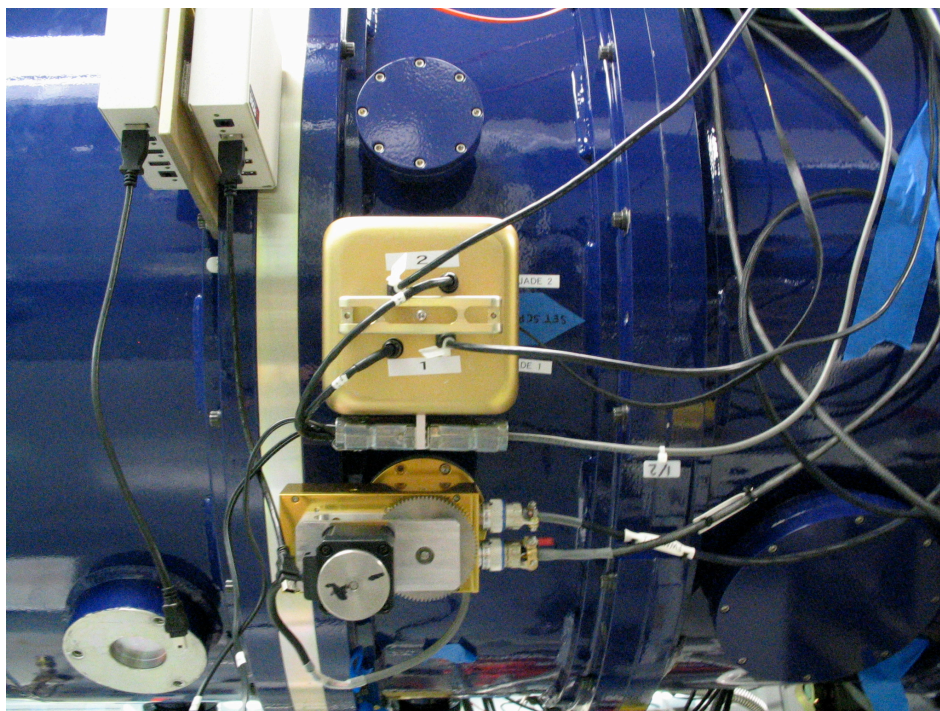
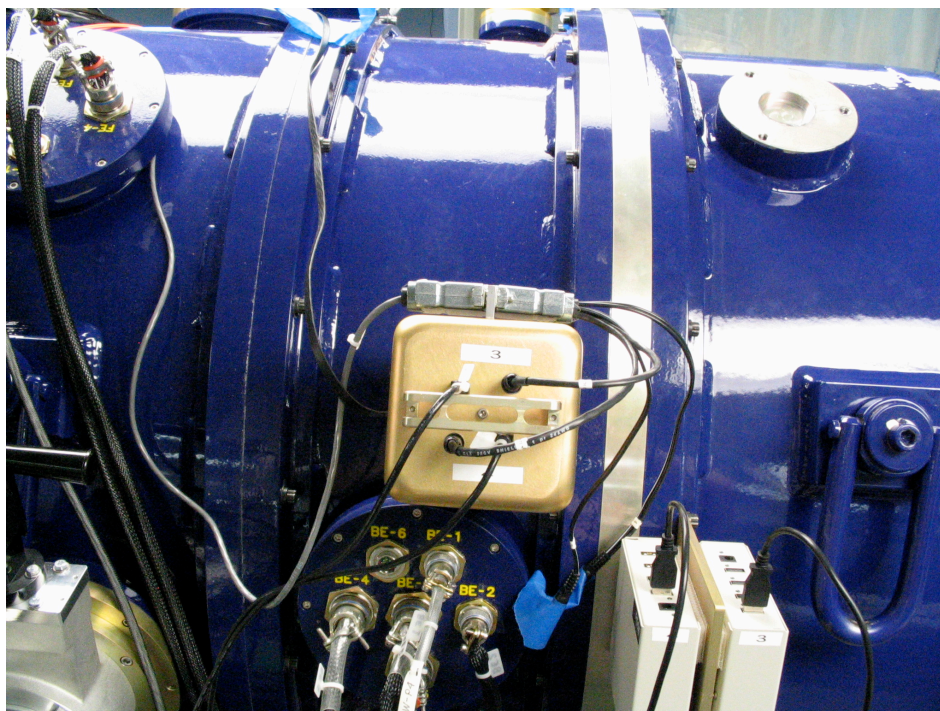

Figure 5.2 External JADE 1-2 box next to the top filter wheel motor. Each JADE card has a 5 volt power cord and USB connection.
Figure 5.3 External JADE 3-4 box next to the back end (BE) connector bulkhead. Each JADE has a 5 volt power cord and USB connection.
- Disconnect the troubled USB cable from the JADE box; see Figure 5.2 & Figure 5.3.